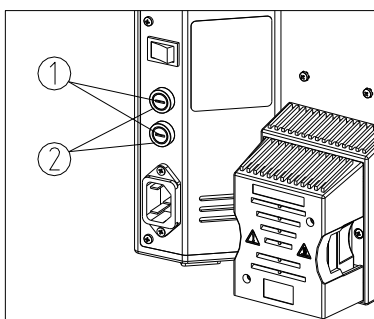

Fig. 25
Turn the main switch to "O" (OFF) before replacing the fuse. Pull out the power cord. Then screw off the fuse group ① from the fuse base ② with a "-" type screwdriver. Install a new fuse and screw it in the fuse base (See Fig. 25).